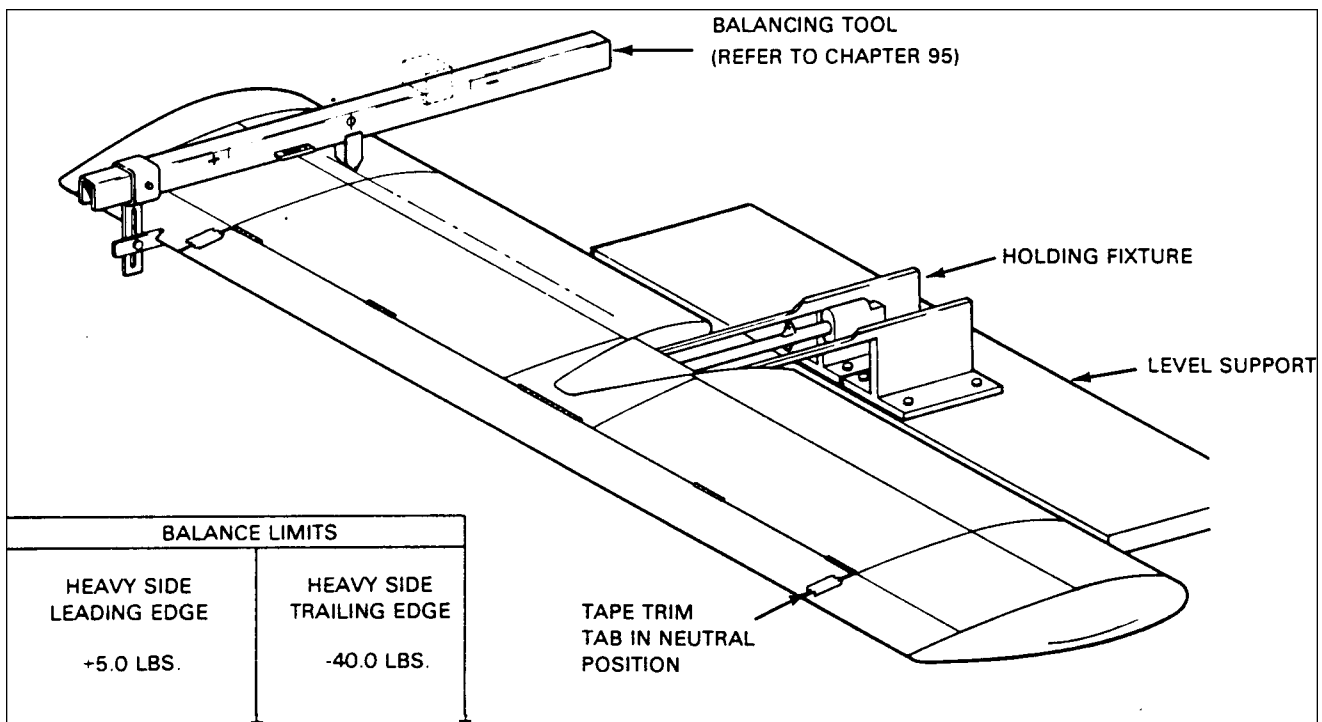

Figure 55-3. Stabilator Balance
5. Place tool on control surface perpendicular to hinge centerline (refer to figures 55-3 and 55-4).
BALANCING STABILATOR (figure 55-3)
To balance the stabilator, the assembly must be complete including trim tab, tab push rod, end bearing, stabilator tips, and all attaching screws. Before balancing, tape trim tab in neutral position with a small piece of tape. Place complete assembly on knife edge supports in a draft free area in a manner that allows unrestricted movement. Place tool on stabilator with beam perpendicular to hinge centerline. Do not place tool on trim tab. Calibrate tool as described in Balancing Equipment. Read scale when bubble level has been centered by adjustment of movable weight and determine static balance limit. If static balance is not within limits given in figure 55-3, proceed as follows: